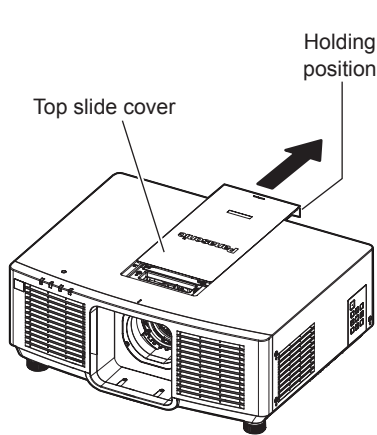

Fig. 1
- 1) Slide the top slide cover. (Fig. 1)
- 1) **Slide the top slide cover. (Fig. 1)**